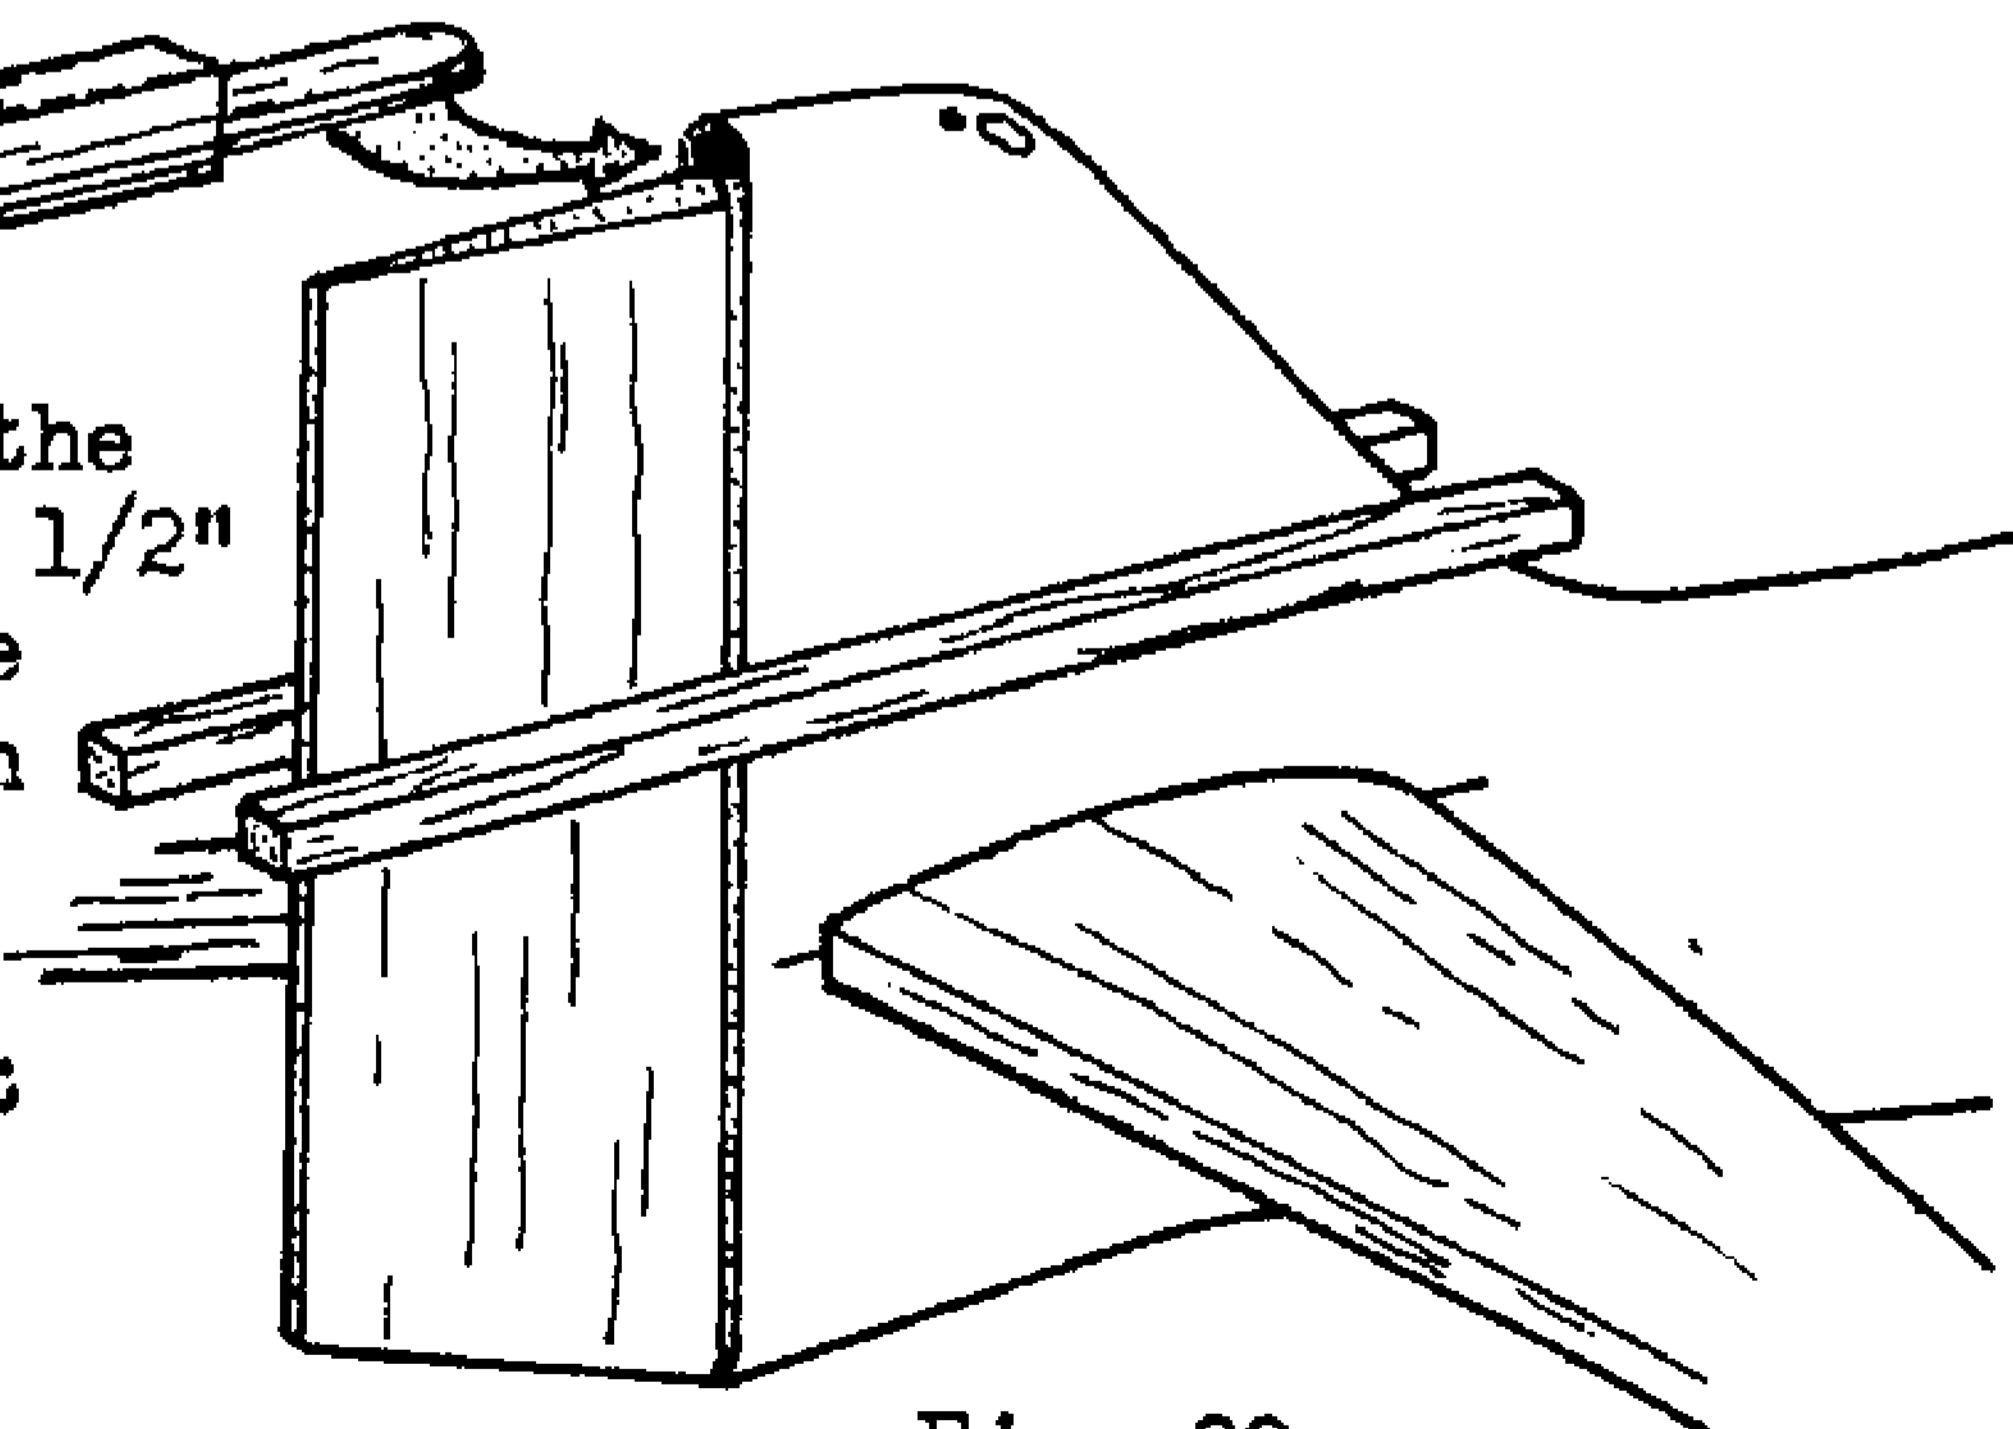

Fig. 30
29. Draw a centerline on the fin hinge line and cut slots for the rudder hinges. Cut matching slots in the rudder. Attach but DO NOT GLUE the rudder to the fin. Sparingly Hot Stuf a 1/4" square balsa piece to each side of the fin to align the rudder in the neutral position. Construct the fin tip by laminating 1/8" thick plywood to 1/2" thick hard balsa and carve to fit inside the fin as shown in figure 30. Glue securely in place and shape fin tip to contour shown on template drawing. Leave rudder and 1/4" sq. pieces temporarily installed to help protect the fin tip during subsequent construction.